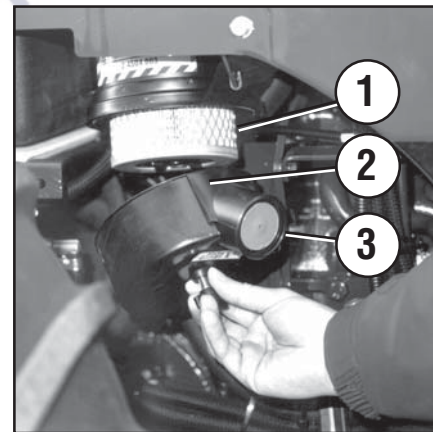

Fig. 50
- 1 - first of all check that the rubber valve at the end of the cover (3 Fig. 50) is free, shaking out any material clogging it.
- 2 - remove filter cover (2 Fig. 50) from its seat, loosening the fastening screw;
- 3 - loosen the central fastening screw and remove the filter from its housing (1 Fig. 50);